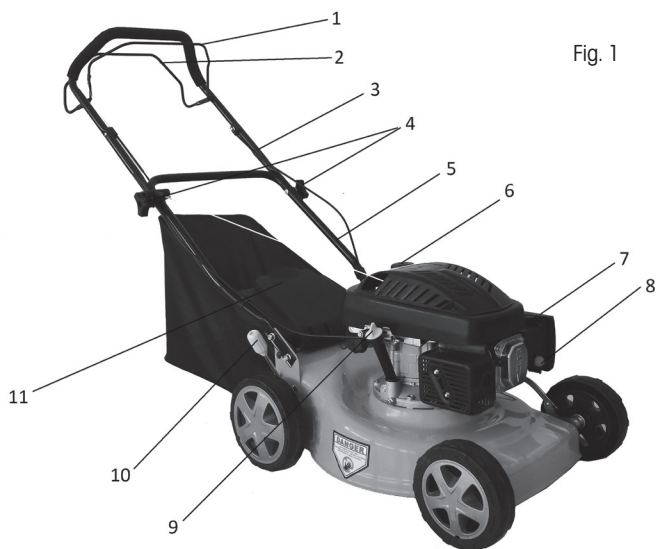

Fig. 1
3. DESCRIPTION OF THE LAWNMOWER (Fig. 1)
After unscrewing the fuel tank cap (Fig 1 – point 6), add the fuel, pouring it in all the way up to the collar of the fuel tank but do not overfill it.
The mowing height is set centrally using the central mowing height adjustment lever (Fig. 1 – point 10). You can select from 5 positions in the range of 25 to 75 mm. The middle mowing height is the most suitable for the majority of lawns.